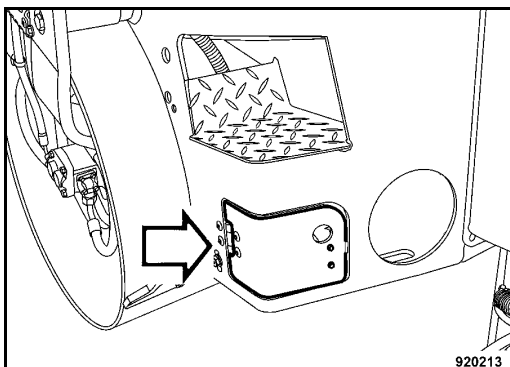

Fig. 185
- Open the covering flap (Fig. 185) on the right hand side of the rear frame.